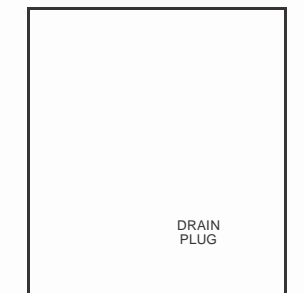

Figure 2
4. Remove drain plug (Fig. 2).
23. Install drain plug (Fig. 2) using a liberal amount of TITE-SEAL COMPOUND 55 or equal. This connection must be absolutely airtight.